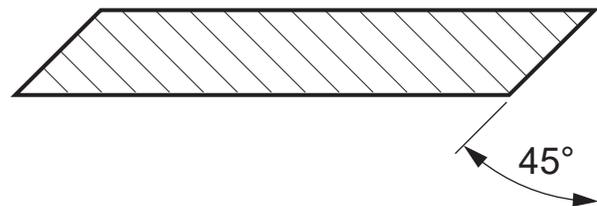

Figure 45—Sharpen to a 45° angle
5. Use a grinder to sharpen the cutting edge of the rotor knife. Sharpen the cutting edge to a 45-degree angle. See *Figure 45*.